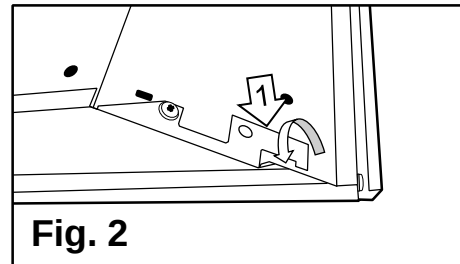

Fig. 2
4. From above the ceiling, secure the Troffer to T-Bar by bending built in **hooks** (#1) on all four corners of the fixture (**Fig. 2**).
5. If local code requires, tie a wire to at least two of the four **hooks** (#1) located near each corner of the Troffer to a structural member of the ceiling (**Fig. 2**).